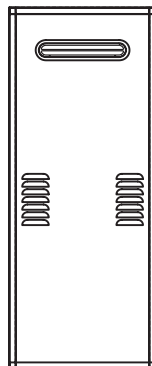

Figure 6: Completed installation.
- After confirming the heater is operating correctly, replace the front cover of the recess box as shown in Figure 6.